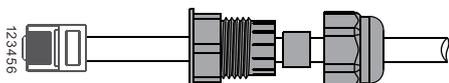

Figure 4.6-4 Remotely close the cable connection
Step 3-2 For Remote Shutdown. Run the cable through the steel plate. Then wire from pins 5 and 6. Table 4.6-1 describes the 6-pin port definition, Wiring is shown in Figure 4.6-4.